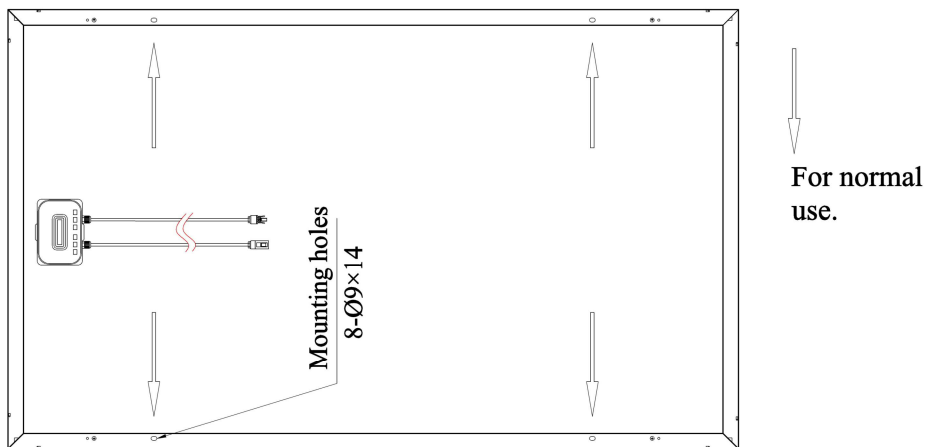
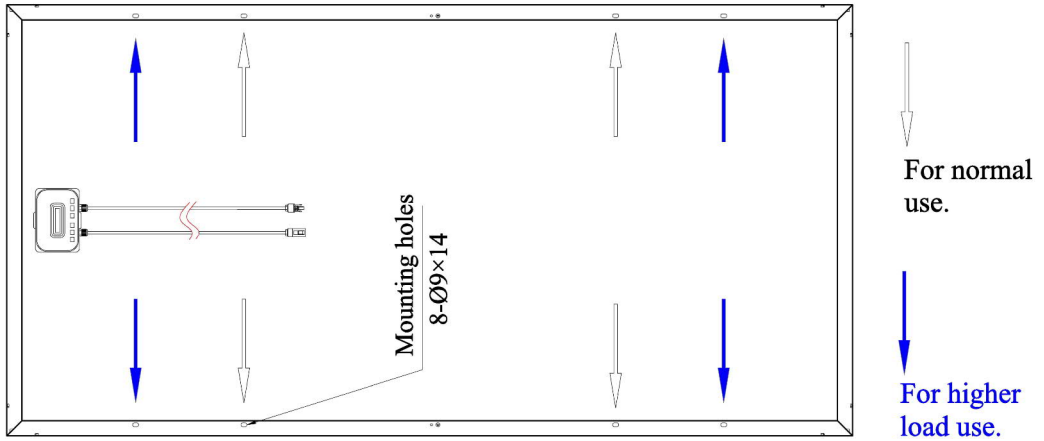

Figure 4: Using 4 mounting holes (2 holes each side frame) to fasten.
Figure 5: Using 8 mounting holes (4 holes each side frame) to fasten
- The module frame has four or eight mounting holes used to secure. As show in Figure 4, four mounting holes are needed in normal. As show in Figure 5, regarding to large modules of type 72, eight mounting holes are needed or in the condition of sustaining higher load.